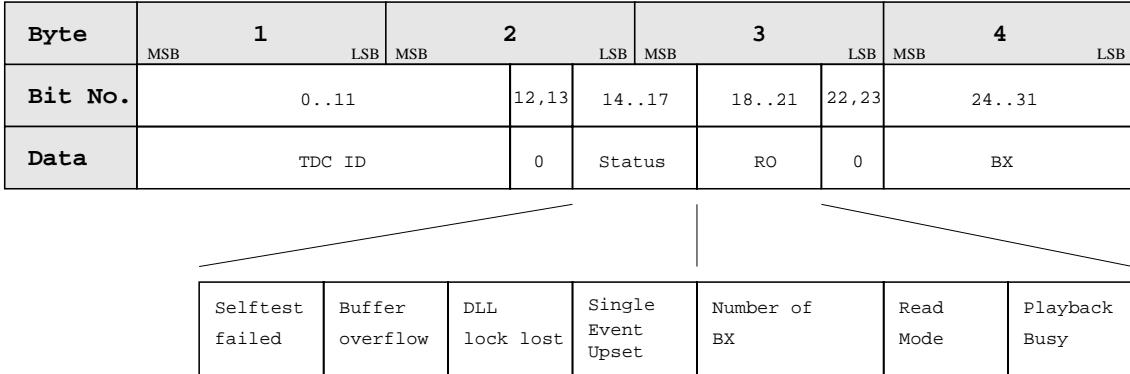

Figure 5: Header data format of *OTIS 1.0* in normal operation mode
On *OTIS 1.1* the addresses of some configuration registers were changed according to table 7. Furthermore the following additional registers were newly introduced or modified: The chip-ID was increased to 12 bits and is now readable via the PosID0, PosID1 registers. The I²C address has been separated from the chip-ID and made accessible via the I2CID register. The Revision register (3) gives access to the chip version used. The event counter (c.f. figs. 5 and 6) already present on *OTIS 1.0* can now be read via the EventID register (7). The total number of received triggers can be read from the ReceivedT register (5), while the RejectedT (6) contains number of rejected triggers due to an already full derandomiser buffer. Thus it holds true that EventID + RejectedT = ReceivedT if the there is no pending readout (i.e.
To select normal (or `single hit`) operation mode, the content of the `ReadMode` register must be set to 8'bXXXX00xx. The upper 4 bits have no function *OTIS 1.0*. On *OTIS 1.1* only bit number 7 is not used: Bit no. 4 turns on the transmission of a *Comma* (i.e. a byte set to 8'b11111111) immediately preceding a non-consecutive readout data frame. Bit no. 5 activates the `dataValid` output pad and bit no. 6 the transmission of the previous drift time in the lower 6 bits of an unhit channel. On both, *OTIS 1.0* and *OTIS 1.1*, bits number 0 and 1 are used to program the number of data sets to search for hits. Bit number 2 selects `single hit` operation mode. For `suppress zero` mode this bit must be set to 1, but this mode is not implemented on *OTIS 1.0* and *OTIS 1.1*. For the latter mode the content of bit number 3 turns data stream truncation on or off. Figure 4 depicts how data and drift times are formatted in `single hit` operation mode. Figures 5 (*OTIS 1.0*) and 6 (*OTIS 1.1*) show how the status and hit information is organised in the header which precedes every output data frame.